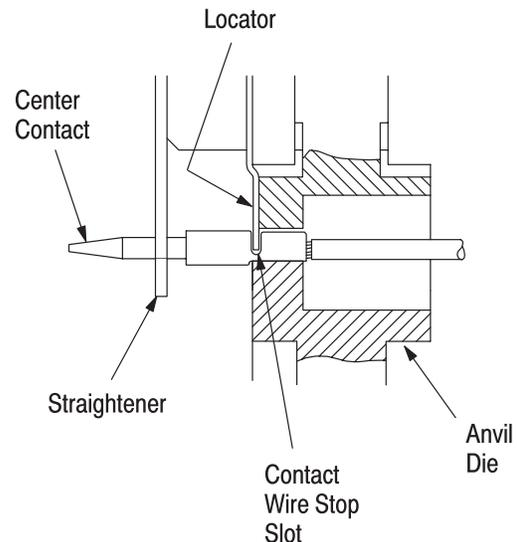

Figure 3
4.1. Crimping the Center Contact (Figure 3)
2. Close the tool handles so that the dies partially close. Position the contact so that the locator drops into the contact wire stop slot and the end of the contact is inside the groove in the straightener. See cross-sectional view in Figure 3.
4. Insert stripped cable into contact wire barrel until it is butted against the locator. See cross-sectional view in Figure 3.
NOTE *The crimped center contact may stick in the crimping area, but the contact can be easily removed by pushing downward on the top of the locator (see Figure 3).*